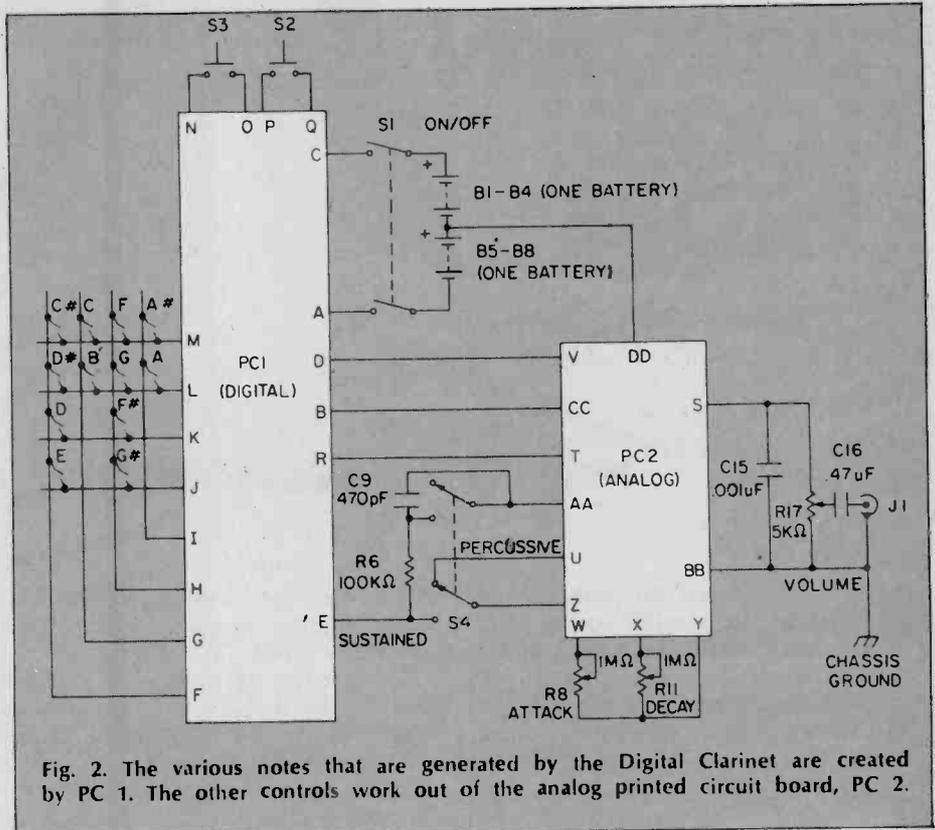

Fig. 2. The various notes that are generated by the Digital Clarinet are created by PC 1. The other controls work out of the analog printed circuit board, PC 2.
Top-octave generator U2, a Mostek 50240, is fairly expensive. It is recommended that you be especially careful when handling it to avoid damage from static discharge. Note how the key-switches (S5 through S16) connect to encoder U4 in a matrix arrangement. Each keyswitch connects to one horizontal and one vertical line of the encoder matrix (Fig. 2).
**What A Figure.** By viewing Fig. 2, it can be seen that certain components do not mount on either board. Specifically, R6 and C9 mount directly on the lugs of S4, while C15 is soldered across the outermost lugs of R17. **Note:** The border around PCI is at a potential of -6 volts, while PC2's border is at ground potential. Bear this in mind and don't get confused. Be sure to include jumper (JU1) when wiring up the digital board.